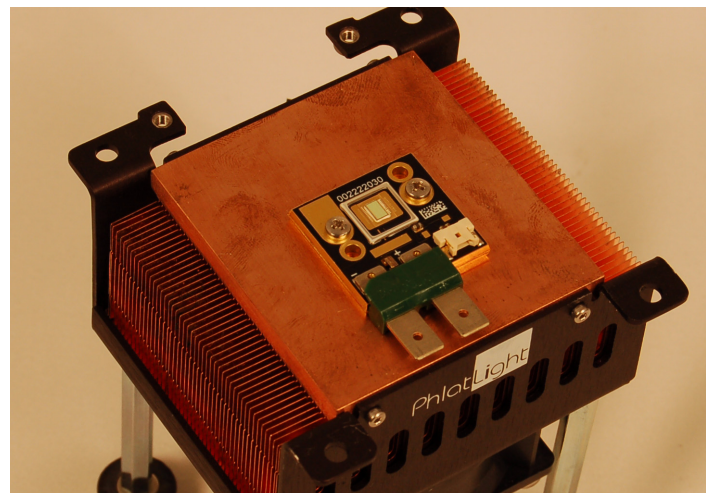

Figure 13: Device mounted on heat sink and is now ready for electrical connections
- Insert screws in the holes of the core board. Tighten the screws with a screw driver in a pattern such that each screw is tightened alternatively and there is equal pressure by all the screws on the core board. Tighten those making sure that there are no gaps between the core board and heat sink (Figure 13). To ensure this, we recommend using a torque wrench to tighten the screws with torque settings of 40 Oz-Inches (0.2825 Newton-meter in metric units.)